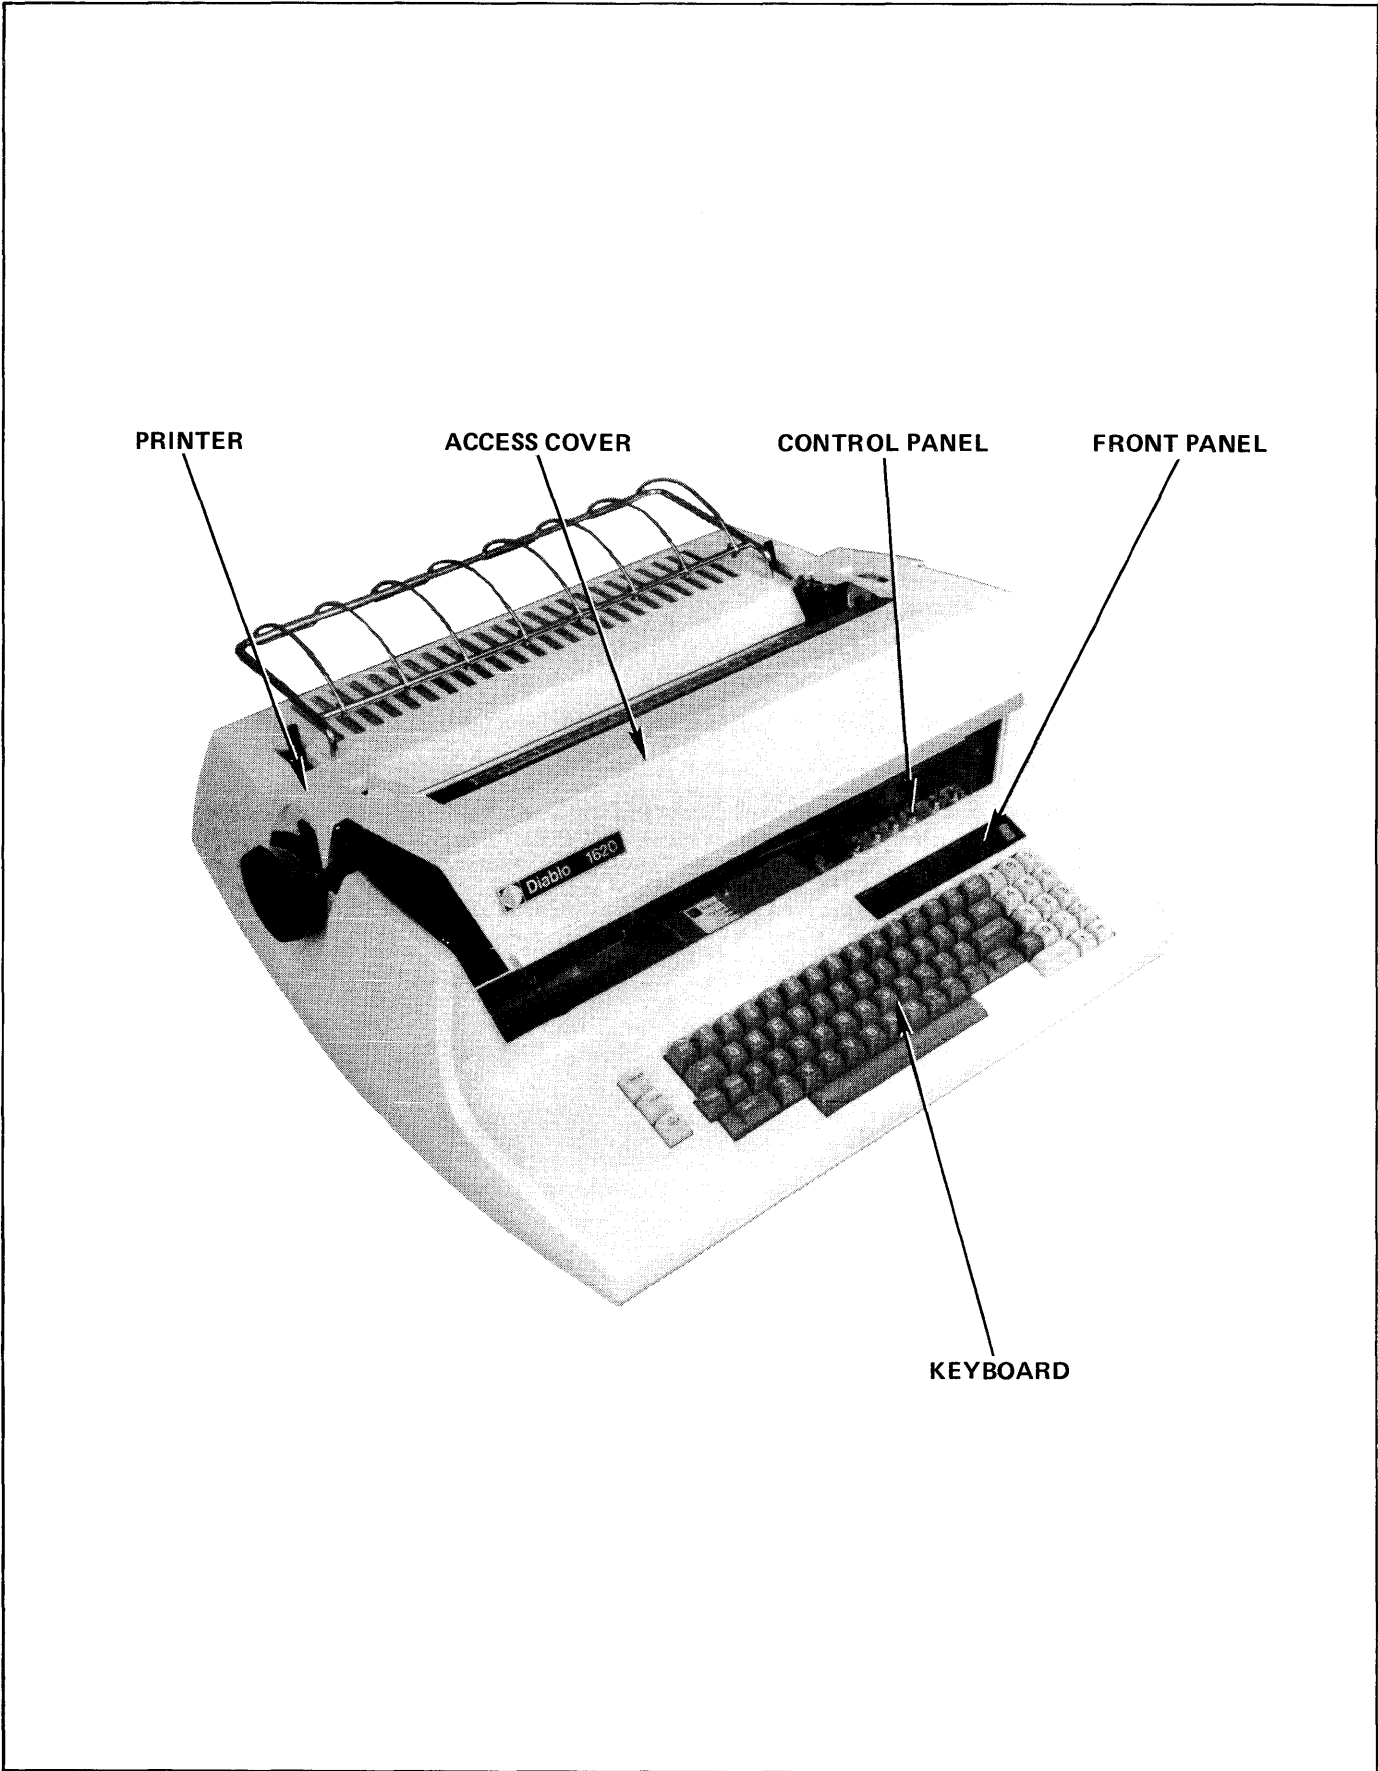

Figure 2-1. Switches, Indicators, and Controls
2.2 SWITCHES, INDICATORS, AND CONTROLS (Figure 2-1)